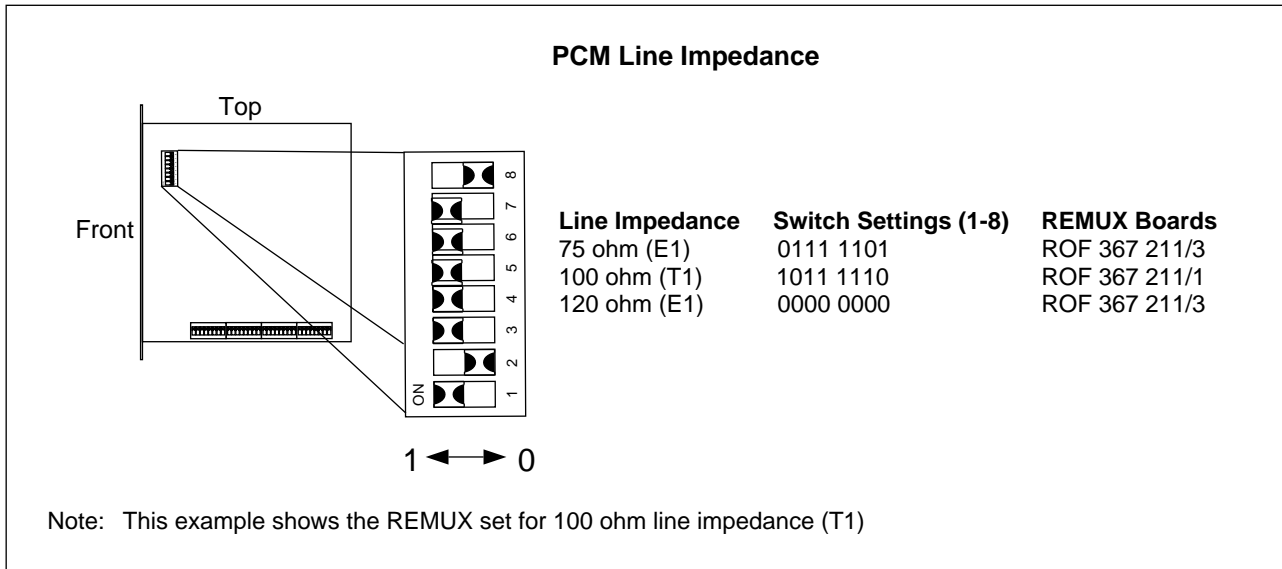

Figure 4-22. Setting the PCM Line Impedance
5. Set the unit to the PCM line impedance by setting the switches as shown in Figure 4-22 on page 4-42. The line impedance can be found in the *Configuration Data* in the *Site Installation Documentation*.
Note: When a DIP switch is in its lower position (with the REMUX board oriented as shown in Figure 4-22 on page 4-42), the value is 0 (zero).